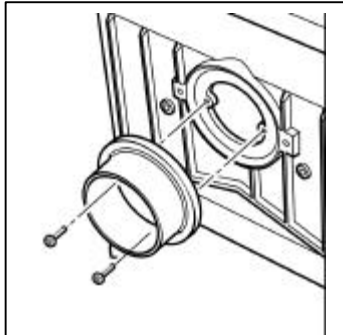

Figure 2
2. Connect the flue spigot to the rear opening in the down draught diverter using the two nuts and bolts that are located in the fixing holes. (See figure 2)